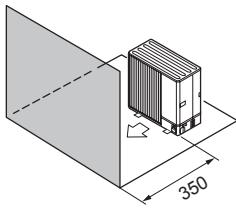

Fig. 2-27
- ④ Obstacles at front only (Fig. 2-27)